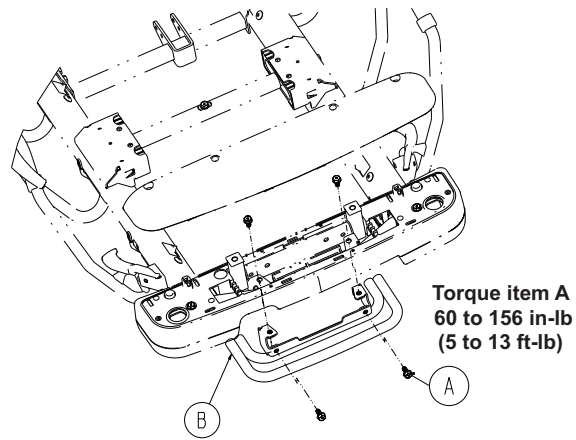

Figure 50 – Pump bar option
- Lift up on the mid cover (T) to remove the mid cover from the litter frame. Save the mid cover.
- For products with a pump bar option, use a ratchet and a 1/2" socket to remove the four screws (A) that secure the pump bar (B) to the litter frame (Figure 50). Save the screws and pump bar.